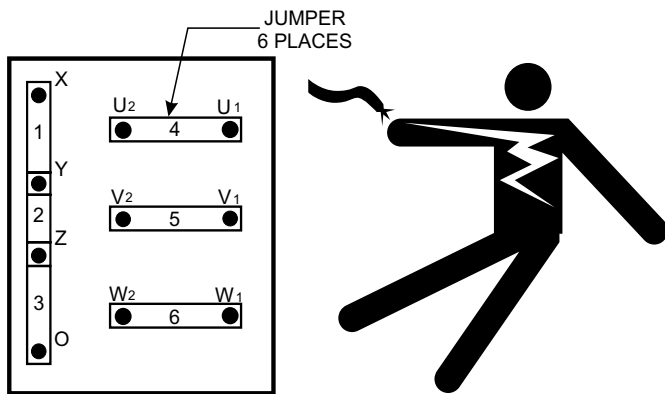

Figure 16. Voltage Change-Over Board
A wide range of voltages are available to supply voltage for many different applications. Voltages are selected by using the **voltage change-over board** (Figure 16). To obtain some of the voltages as listed in Table 8 (see below) will require a fine adjustment using the **voltage regulator (VR) control knob** located on the control panel.
The **voltage change-over board** (Figure 16) is located on the control box, behind the generator control panel. This board has been provided for ease of voltage selection n..